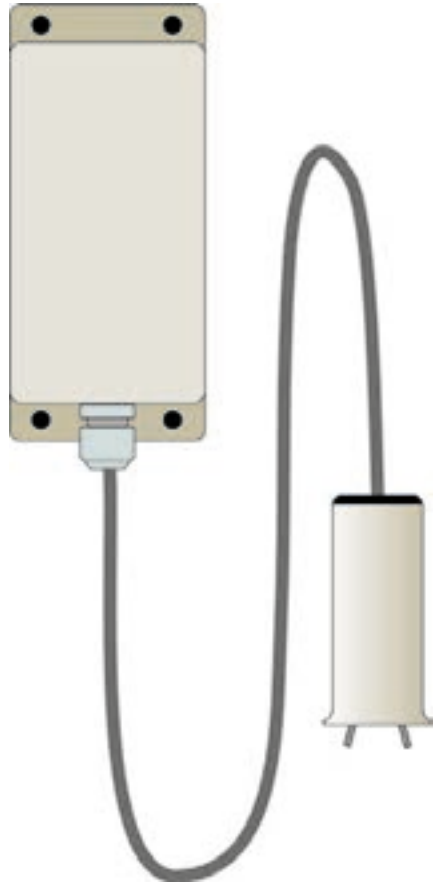

FIGURE 1
A. A transmitter mounted in the tank or pumphouse with a sensor monitoring the liquid level. (Figure 1)